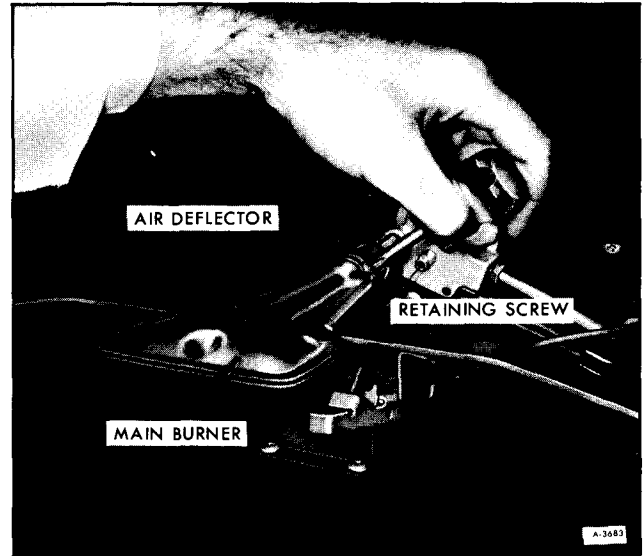

Figure 26—Location for Main Burner Adjustment
1. Loosen air deflector retaining screw (figure 26).